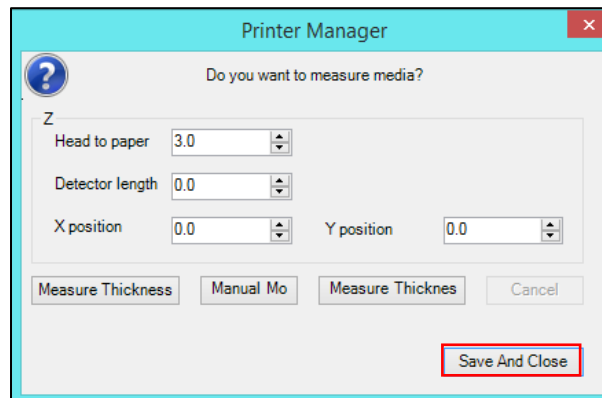

Fig 20: Displaying the Do you want to measure media? Window
- A. Click on the **Measure Thickness** button to start the head height measurement process. For manual processing, set values in Head to paper, Detector length, X position, and Y position fields (Refer to Fig 20).